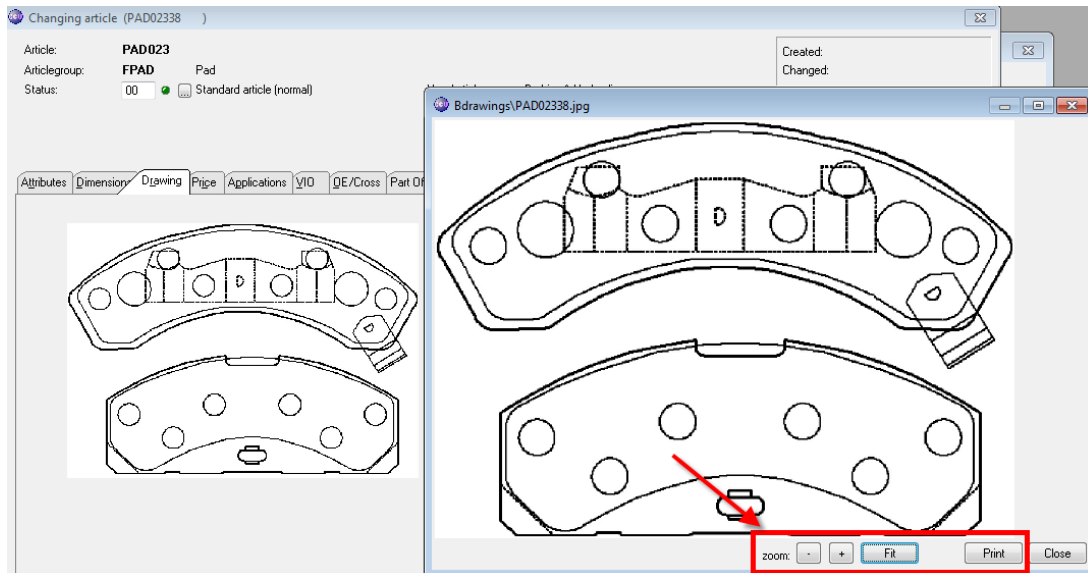

Figure 13:Zoom and fit functions
- Zoom function has been added for large drawings. See *Figure 13:Zoom and fit functions*
- *Fit*-Button to immediately scale the drawing to fit the window. See *Figure 13:Zoom and fit functions*